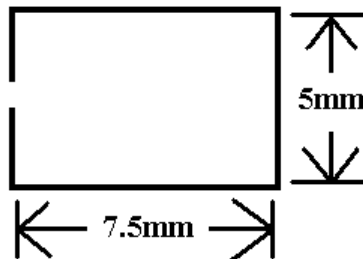

Figure 3
10. Bend a piece of phosphor bronze wire as shown in Figure 3; the dimensions are measured inside the loop. Use tapered pliers, marked at the appropriate distances to ensure each loop is the same, or use the *LBJBC* loop bending jig.